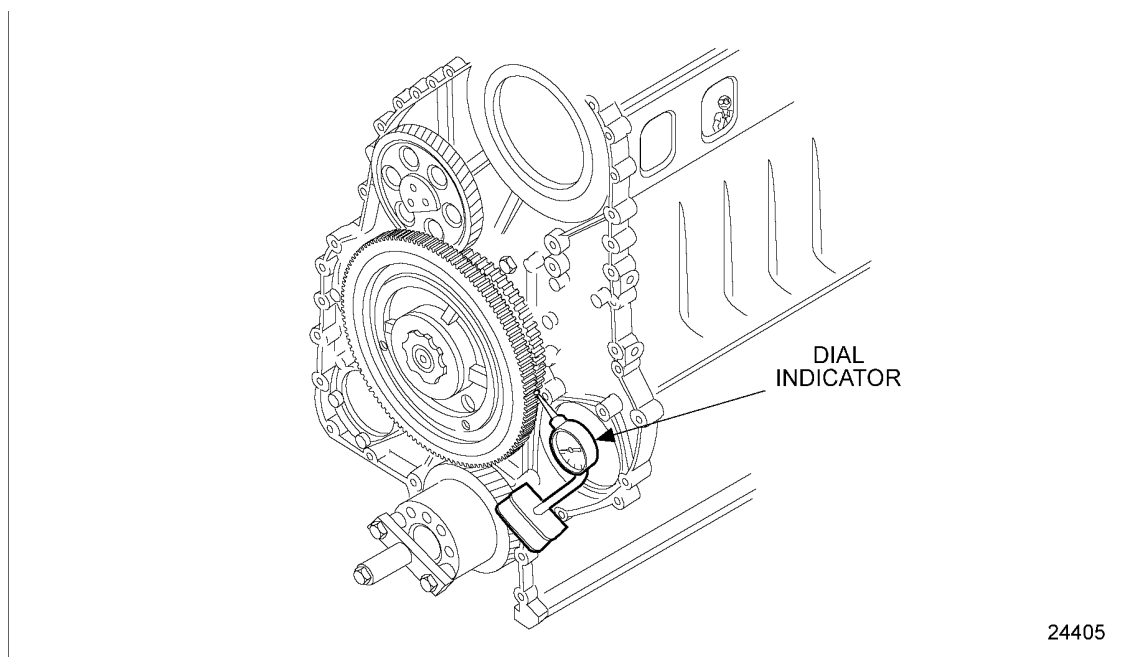

Figure 1-277 Crankshaft Timing Gear-to-Bull Gear Lash Measurement
- [a] Install a dial indicator and magnetic base. See Figure 1-277.